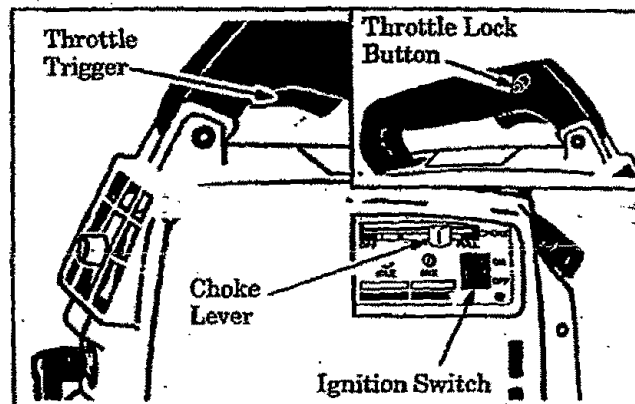

Figure 11
- Move Ignition Switch to the "ON" position. Figure 11.
- Move Choke to "FULL". Figure 11.
- Press and hold the throttle lock button. Figure 11 (inset).
- e. Move Choke to "HALF". Figure 11.
- g. Allow engine to run for 5 seconds, then move Choke to "OFF" position. Release Throttle Lock by squeezing and releasing the Throttle Trigger. Figure 11.
- h. To stop engine, move Ignition Switch to "OFF" position. Figure 11.
- a. Move the Ignition Switch to the "ON" position. Figure 11.
- b. Move Choke Lever to the "HALF" position. Figure 11.
- c. Engage Throttle Lock. Figure 11 (inset). Leave throttle lock engaged thru step "d."
- e. Move Choke to "OFF". Figure 11.
- f. Release Throttle Lock by squeezing and releasing the Throttle Trigger. Figure 11.
- g. To stop engine, move Ignition Switch to "OFF" position. Figure 11.
1. Move the choke lever to "Full". Figure 11.
9. Reassemble air filter/cover assembly to unit. Return choke lever to the "Off" position. Figure 11.